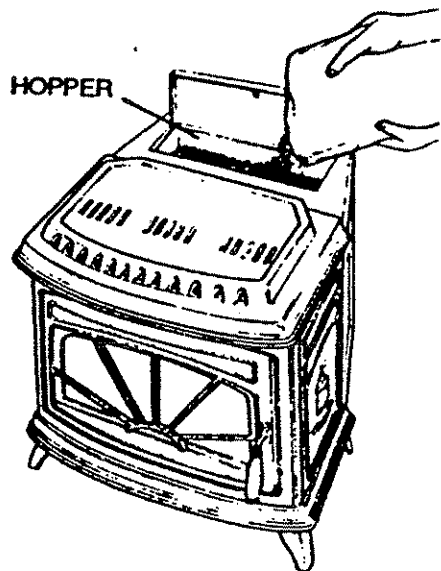

Fig. 25
1. Fill the hopper with the recommended pellet fuel. (See Fig. 25)
3. Turn the ON/OFF switch in the control panel to the ON position and turn fuel feed control knob (heat output selector switch) to max (6). Press and hold the manual feed button (B) to prime auger.
1. Ensure pellet fuel is present in hopper and add fuel if necessary. (see fig. 25).
2. Either manually or by using the fuel feed button (B) located on the bottom/left of the control panel, put a small amount of pellets in the grate (item 6). (see fig. 25)
1. Ensure pellet fuel is present in hopper and top up/add fuel if necessary. (see fig. 25)
2. Switch on pellet stove at the controller main switch (A), located on the right hand side of the unit.
3. Press the manual feed button in, until about 1/3 of the grate (item no. 6) is full of pellets, approximately 10 secs then release. Press the auger mode button (C) The ignition system will heat for 10 minutes, but fuel ignition may take place from 5 minutes.